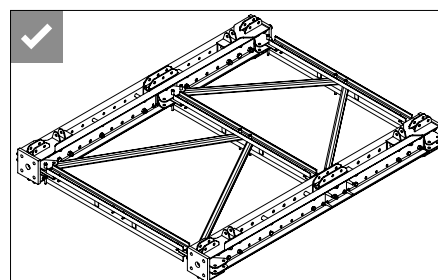
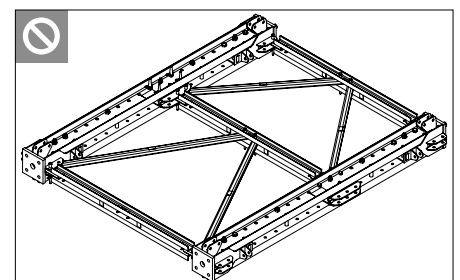

Fig. B3.02d
Abb. B3.02e
6. Repeat the procedure for all Diagonal Struts VST. (Fig. B3.02d)
Horizontal support is connected to the Cross Connector VST not to the Bracing Connector VST. (Fig. B3.02d) (Fig. B3.02e)